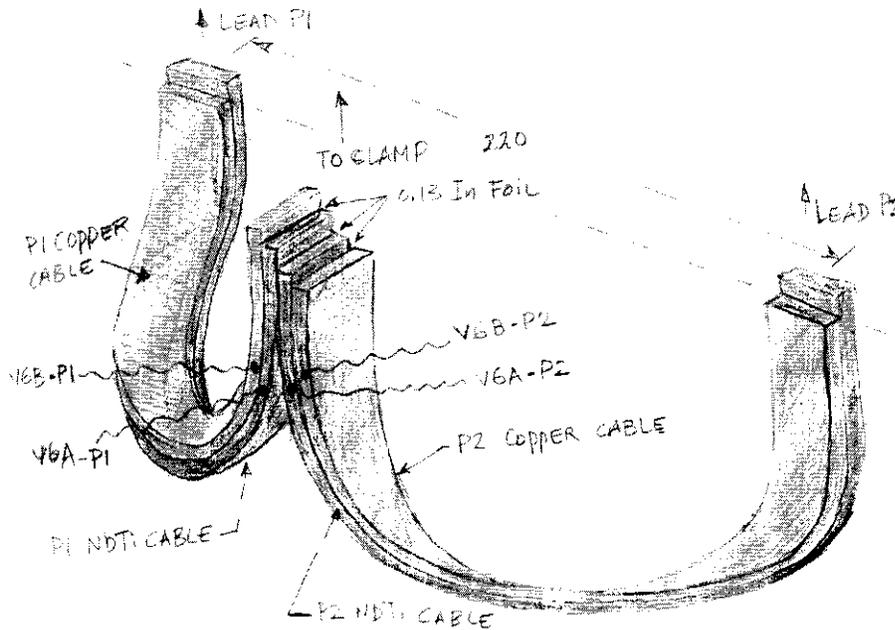

Figure 4.1b Illustration of LTS Pigtail Routing to Praying Hands Joint.
- 4.3 Attach the voltage tap wires labeled "V6" to the LTS cables as indicated on Figure 4.1b.